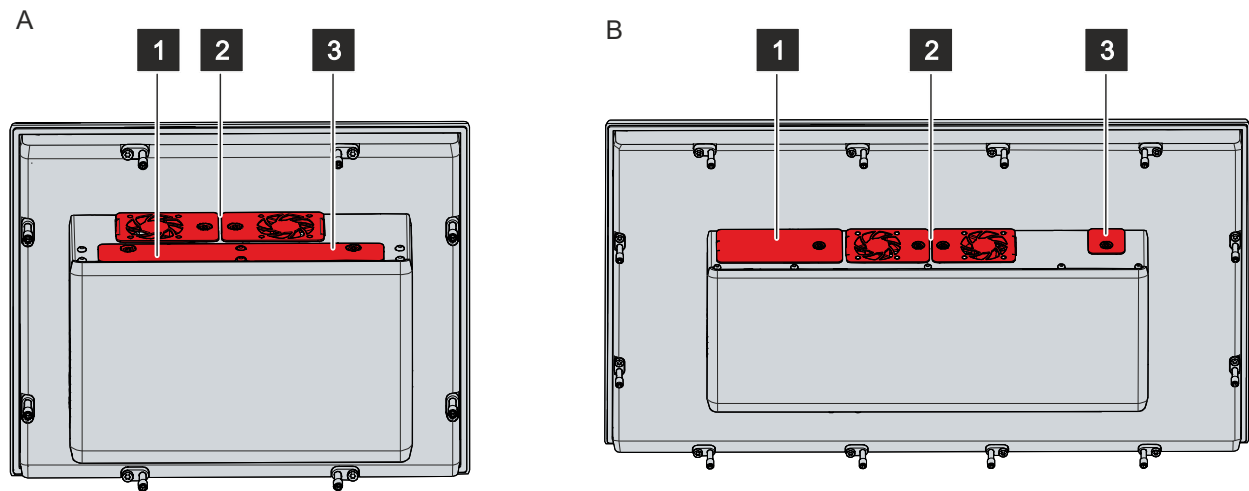

Fig. 26: Access device components
You can access the storage media (1), the fan cartridges (2) and the battery (3) via the rear side of the panel PC. The components are located on the top of the connection block under covers (see Fig. 26). Depending on the selected display size of your device, the storage media and battery are either located together under one cover (A) or under separate covers (B). The procedure for replacing the components is the same regardless of the arrangement on the device (see upcoming chapters).